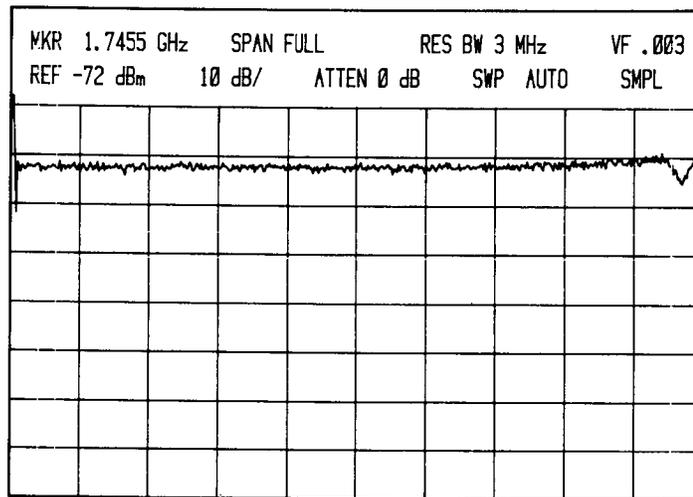

Figure 4-11. Average Noise Level Measurement, 3.8–8.5 GHz
2. Observe sweep in FULL BAND. Using TUNING control, tune marker to point of highest noise level. (A typical trace is shown in Figure 4-11.)